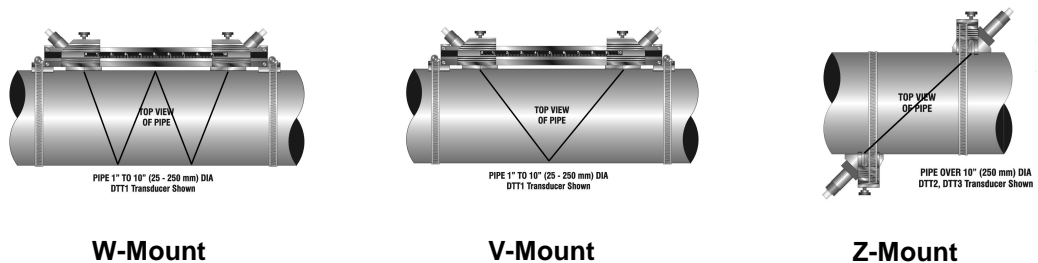

Figure 1.2
- B. Select a mounting method for the transducers based on pipe size and liquid characteristics. See **Figure 1.2**. Select **W-Mount** for plastic pipes flowing clean, non-aerated liquids in the 1-3 inch [25-75 mm] internal diameter range. Select **V-Mount** for pipes of all materials and most liquids in pipe sizes from 1-10 inches [25-250 mm]. Select **Z-Mount** for pipes larger than 10 inches.